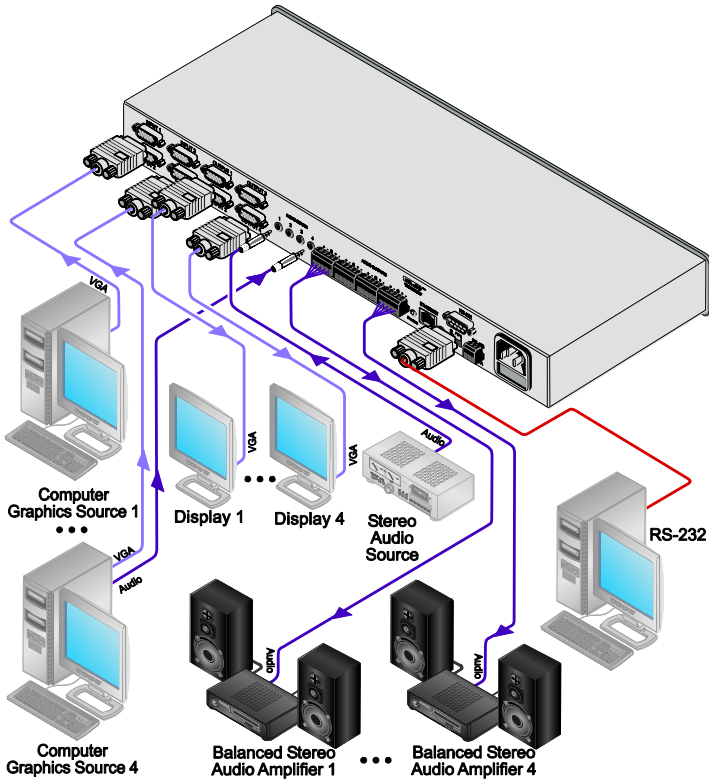

Figure 2: Connecting the VP-4x4K 4x4 UXGA/Audio Matrix Switcher
To connect the **VP-4x4K**, as illustrated in the example in Figure 2, do the following:
*Alternatively, you can connect a separate audio source (as shown for input 1 in Figure 2), or no source at all.*